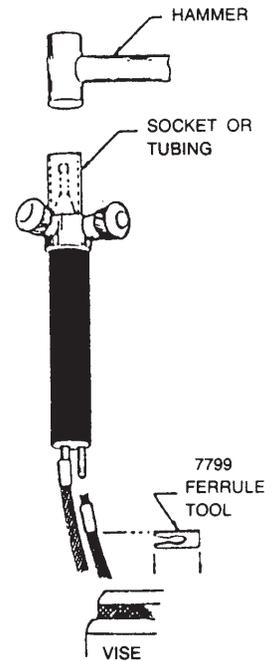

Figure 1
4. Hold torch so that ferrule tool is resting on top of vise, jaws opened to approximate width of hose. with a plastic hammer, wood block or equivalent, tap lightly on end of tubing or socket until the metal ferrule just covers the barbs of the nipples. See Figure 1. Remove tool.
4. Hold torch so that ferrule tool is resting on top of vise, jaws opened to approximate width of hose. With a plastic hammer, wood block or equivalent, tap lightly on end of tubing or socket until the metal ferrule just covers the barbs of the nipple. See Figure 1. Remove ferrule tool.